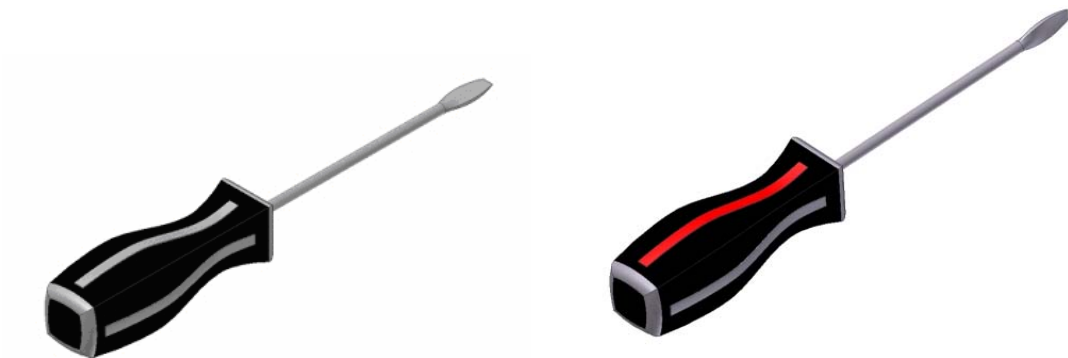

Figure 3
- In the **Feature Properties** dialogue, select **Red** in the pulldown and click OK. Only the first ridge on the body of the screwdriver will change to red. The rest will remain gray as shown in Figure 3.